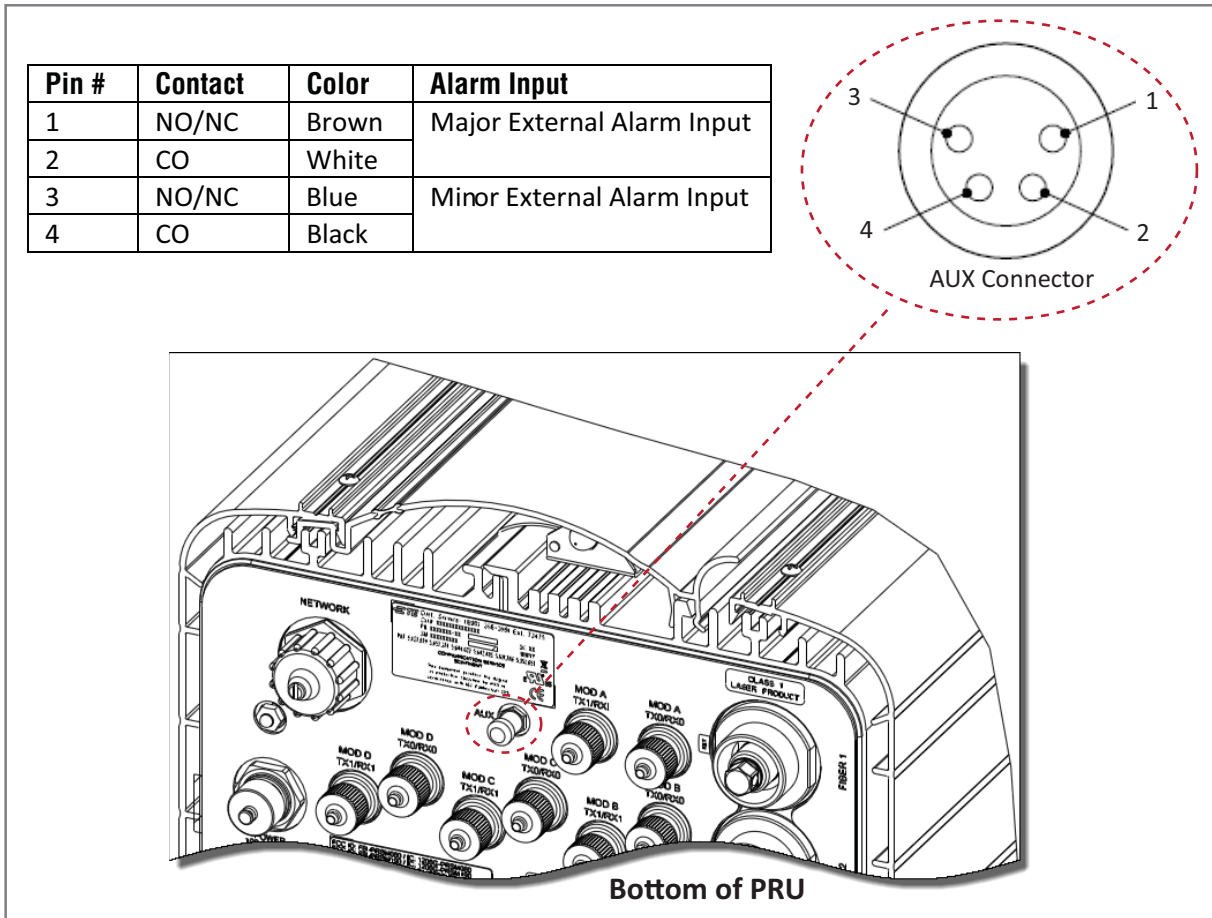
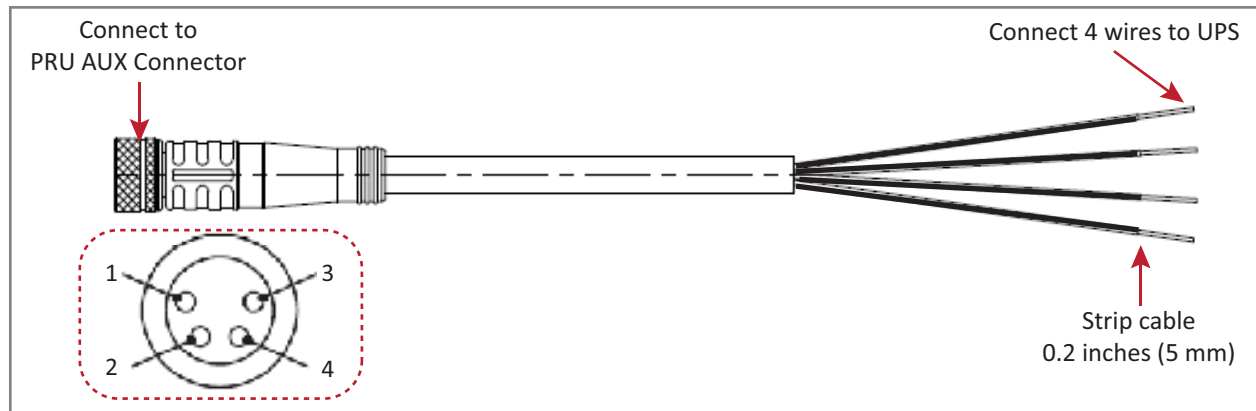

Figure 17. AUX Connector Pin Orientation
Figure 18. 4-Wire picofast 26 AWG Cable
The four-pin AUX Connector on the bottom of the PRU allows the PRU to be connected to an external device with dry contact connections, such as a Uninterrupted Power Supply (UPS). The AUX Connector pins are shown in Figure 17.
A 4-Wire M8 picofast® 6- or 10-meter 26 AWG cable is used to connect the PRU to the external device, as shown in Figure 18.
- 2 Orient the coupling fastener on the cable (Figure 18) with the AUX Connector pins (Figure 17), and then fasten the cable to the AUX Connector.